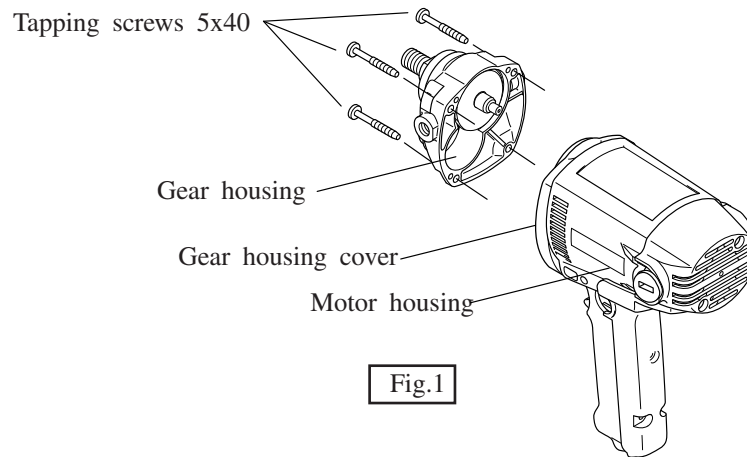

Fig.1
- (1) Disassembling gear housing by unscrewing 4 pcs. of tapping screws 5x40. See Fig.1.